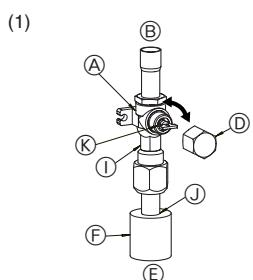
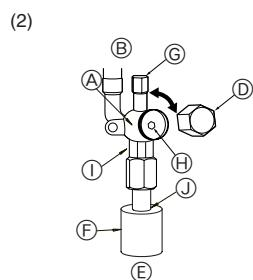

Fig. 4-5
Fig. 4-6
(1) Gas side of P71-140 (Fig. 4-5)
- ① Remove the cap, pull the handle toward you and rotate 1/4 turn in a counterclockwise direction to open.
- ② Make sure that the stop valve is open completely, push in the handle and rotate the cap back to its original position.
(2) Liquid side of P71-140 (Fig. 4-6)
- ① Remove the cap and turn the valve rod counterclockwise as far as it will go with the use of a 4 mm hexagonal wrench. Stop turning when it hits the stopper.